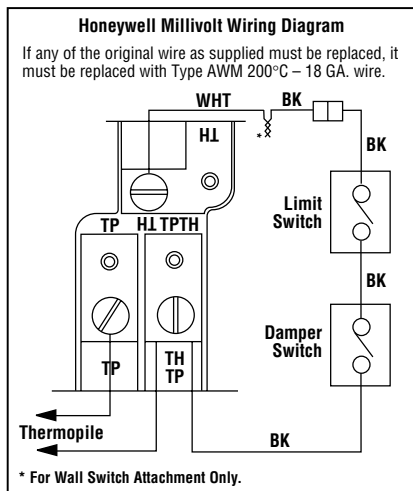
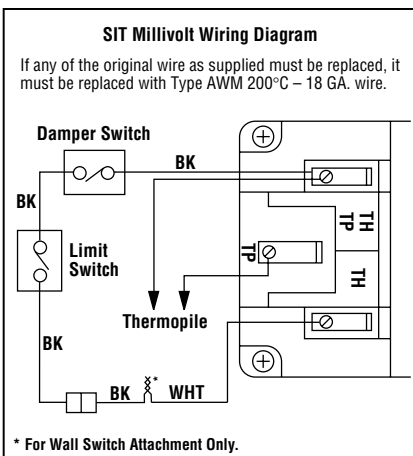

Figure 11
Figure 12
A. Millivolt Wiring – Units may be fitted at the factory with either a Honeywell millivolt gas control valve or an SIT millivolt gas control valve. Both valves have been tested with and approved for use with these appliances and are listed accordingly. Refer to **Figure 11** for wiring of Honeywell systems and **Figure 12** for wiring of SIT systems.
The gas valve has been set in place and has been pre-wired at the factory. No additional wiring is required unless the optional wall switch or optional remote control kit is to be installed. Locate the optional wall switch or optional remote control in the desired location and connect the millivolt wire (see **Figures 11 and 12**).